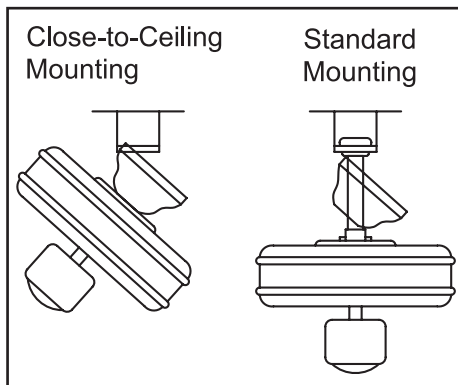

Figure 12
4. Carefully lift the assembly up to the ceiling mounting plate. If using close-to-ceiling mounting, hang the fan on the hook provided by utilizing one of the holes at the outer rim of the ceiling canopy (Figure 12). If using standard mounting, seat the hanger ball in the mounting plate socket. Make sure the tab on the mounting plate socket is properly seated in the groove in the hanger ball.
THE HOOK AS SHOWN IN FIGURE 12 IS ONLY TO BALANCE FAN WHILE ATTACHING WIRING. FAILURE TO HANG AS SHOWN IN FIGURE 12 MAY RESULT IN HOOK BREAKING, CAUSING THE FAN TO FALL. HOOK MUST PASS FROM INSIDE TO OUTSIDE OF CANOPY